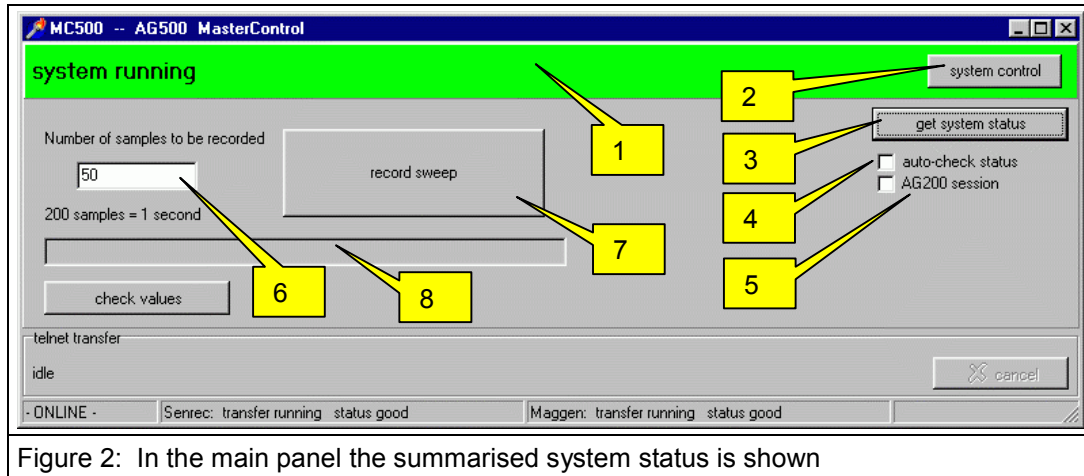

Figure 2: In the main panel the summarised system status is shown
Make sure, the system is online like shown in figure 2.
- choose the number of samples (fig. 2 [6])
- start sweep recording (fig. 2 [7])